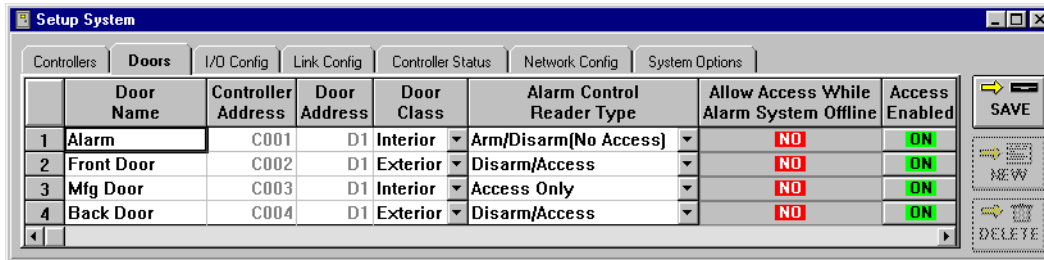

Figure 20: Setup System - Alarm Control Reader Type Set
- Repeat steps 2 through 4 for each controller/door. The resulting window should look similar to Figure 20 on page 12.